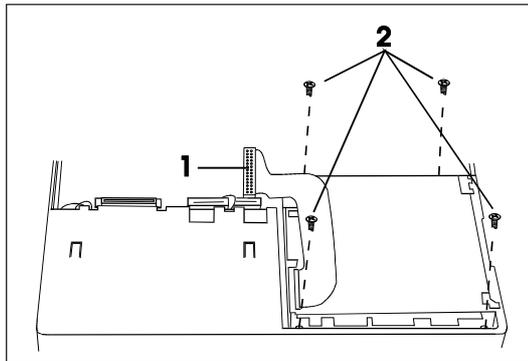

Figure 2-9. Floppy Disk Drive Disassembly/Reassembly
3. Unplug the floppy disk drive cable (Figure 2-9 #1) from the connector on the system board.
4. Remove the four retaining screws (Figure 2-9 #2) and lift the floppy disk drive free.
1. Align and fix the floppy disk drive back onto the chassis and secure with the four retaining screws (Figure 2-9 #2).
2. Reconnect the floppy disk drive cable (Figure 2-9 #1).